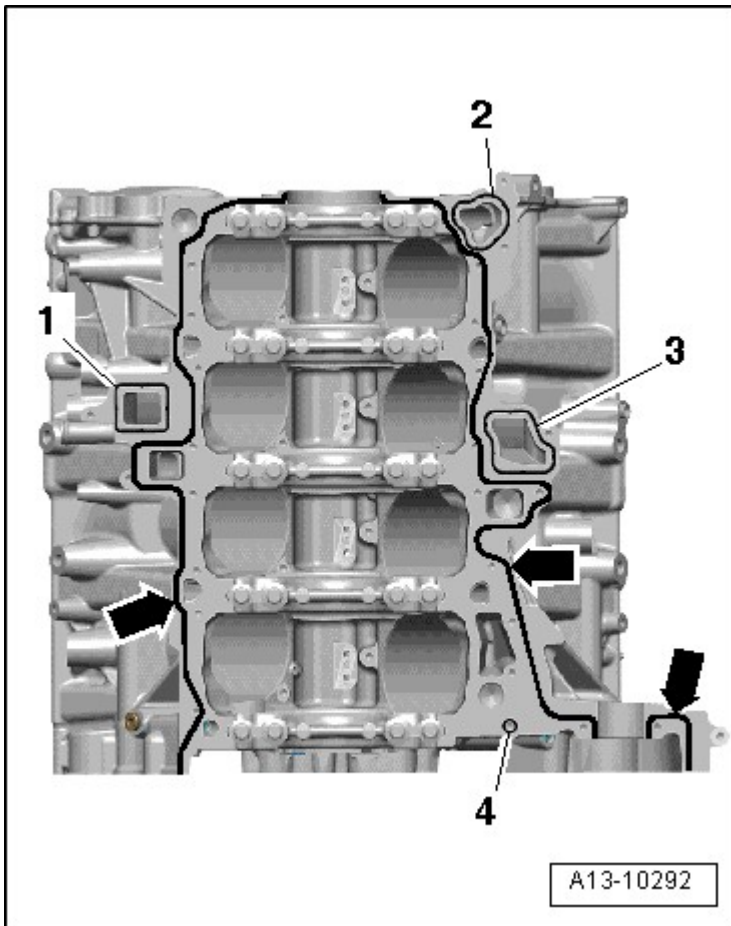

Fig. 11: Sealant Applied On Cylinder Block (For Guide Frame)
- Sealant applied on cylinder block (for guide frame), refer to **Fig. 11**
- Installed location, refer to **Fig. 11**